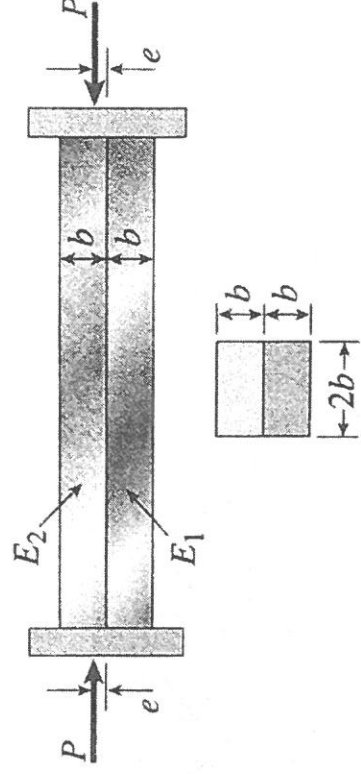

Fig. 1
1. A bimetallic bar of square cross section with dimension  $2b \times 2b$  is constructed of two different metals having moduli of elasticity  $E_1$  and  $E_2$  as shown in Fig. 1. The two parts of the bar have the same cross sectional dimensions. The bar is compressed by forces  $P$  acting through rigid end plates. The line of action of the loads has an eccentricity  $e$  of such magnitude that each part of the bar is stressed uniformly in compression.